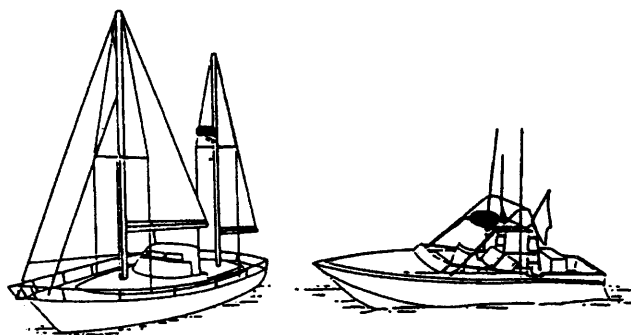

Figure 6-1 Typical antenna unit mounting location for sailboat and power boat
- Typical mounting location for a sailboat and power boat are shown in Figure 6-1.